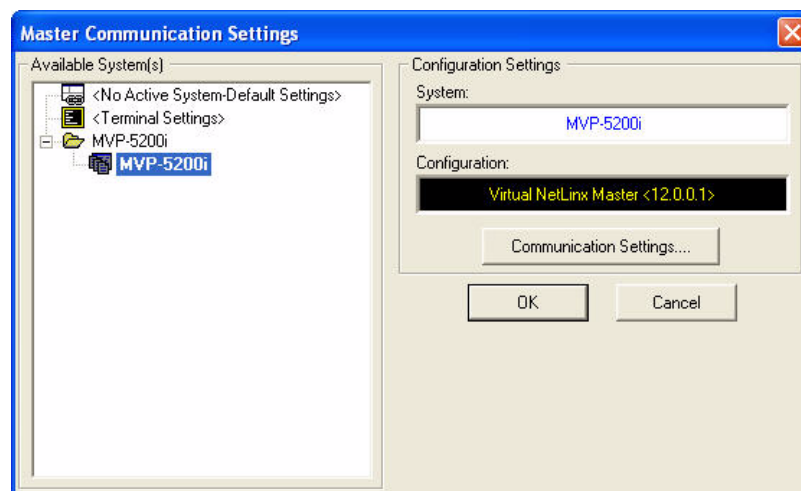

FIG. 98 Master Communications Settings dialog box
1. Launch NetLinx Studio 2.x and select **Settings > Master Communication Settings** from the Main menu to open the *Master Communication Settings* dialog (FIG. 98). If this is the first time the device needs to be configured, refer to the *Configuring Modero Firmware via the USB Port* section on page 186.